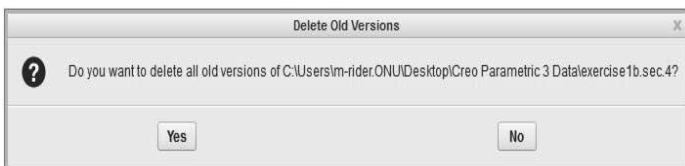

Figure 3-67 Accept Command
Step 34: *Pick Yes* to remove all previously saved versions of this file in your working directory (Figure 3-67).